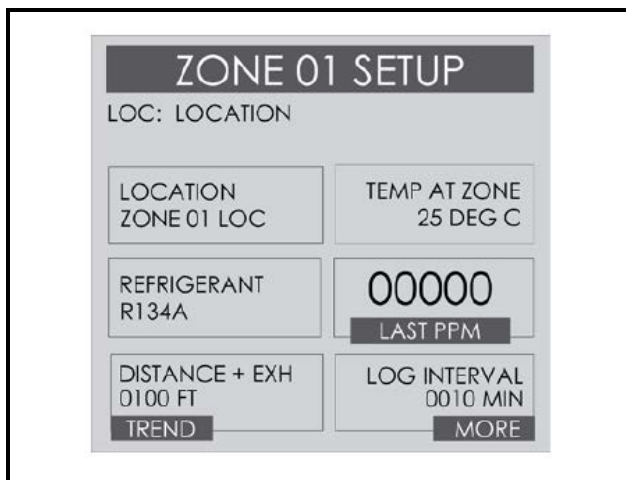

Figure 7-1 - Zone Setup Screen 1
The RLDS retains a data log of 100 measurements for each zone. The log interval is the number of minutes from 1 to 1440 between each log point. This parameter can be changed from *Zone Setup screen 1 (Figure 7-1)*.
Select the **MORE** option at the bottom right side of the screen (*Figure 7-1*) to continue to the next screen containing more options. This screen displays the peak PPM value in the upper left side of the screen.
- **SETUP** - using the right arrow key, navigate to the *Zone Setup screen 1 (Figure 7-1)*. This enables review of the zone setup parameters and accesses the *Trend screen*.